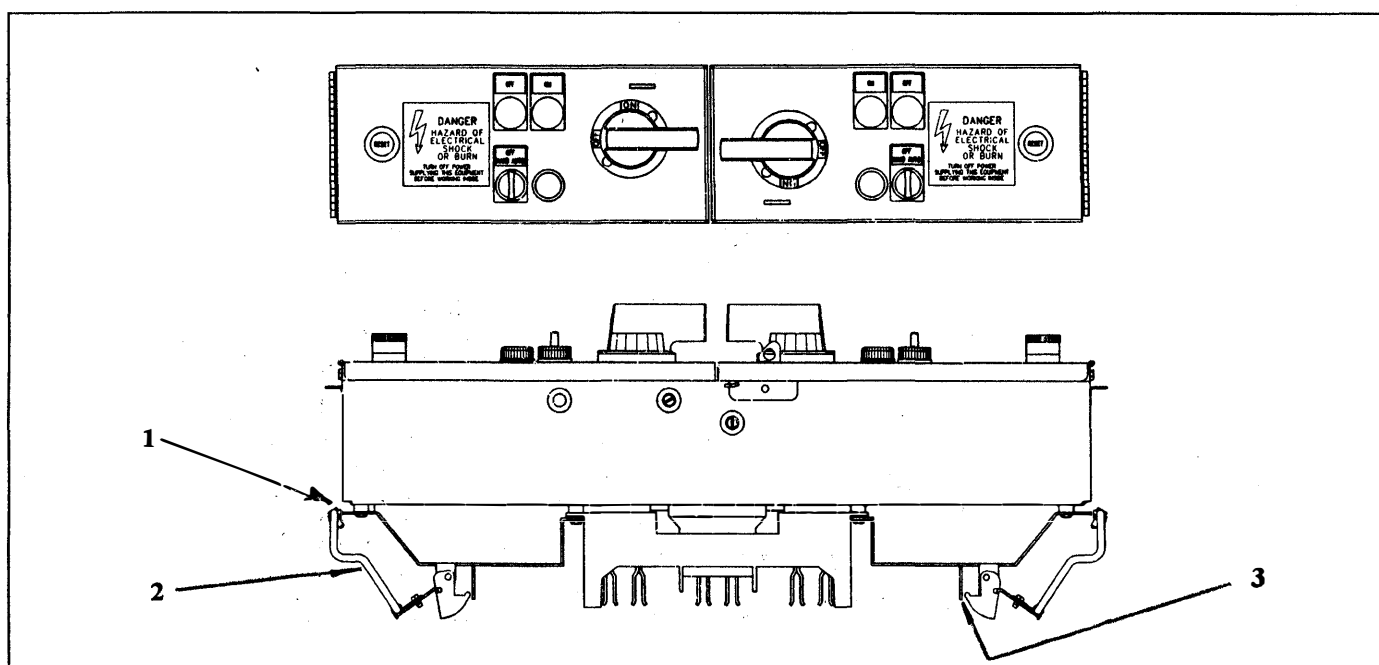

Figure 1.
Loosen rail latch screws (1) and retract latches (2) on both ends of the switch as shown. See Figure 1.
Locate the unit flush to the adjacent unit or main lug base allowing no space between units. Line up the guides (3) on both ends of unit to notches in the panelboard interior rails. See Figure 1